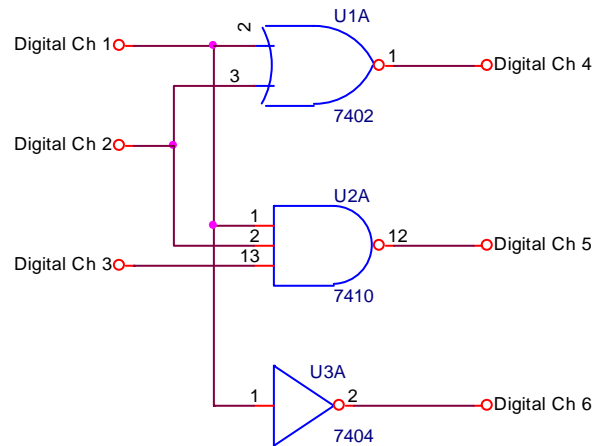

Figure A-3
- Wire the circuits in figure A-3 on your protoboard. Do not forget to tie pin 14 to 5V and pin 7 to 0V on each chip. (Also note that the 74107 chip and the 7410 chip in your kit are not the same chip. Here we want the 7410.)